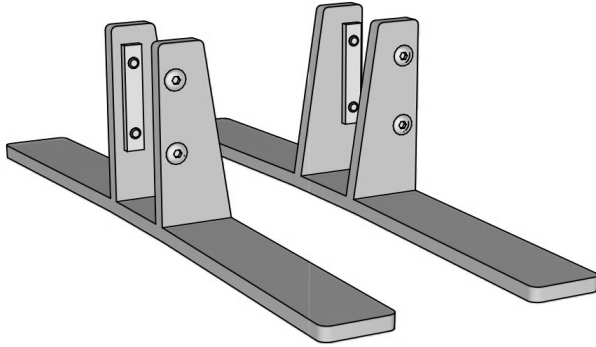
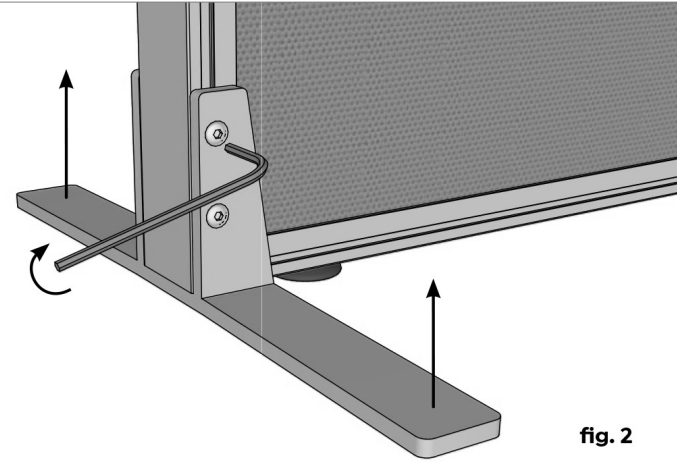

fig. 1
fig. 2
Note: Clamp can accommodate 25mm and 75mm thicknesses by rotating highlighted section of clamp in **Fig 1**.
STEP 1: Lift screen and slide freestanding foot **fig 1** up on to screen from the bottom, as shown in **fig 2**.